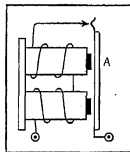

FIG. 134. Electric buzzer.
Prob. 2-7. An electric buzzer has two coils wound on soft iron cores as shown in Fig. 134. The piece of iron *A* is called the armature and is attracted by the electromagnets. Sketch some of the lines of magnetic flux due to the current in the coils.
75. Buzzers. A buzzer is constructed like any of the bells described above. (See Fig. 134.) The clapper and bell are left off and the noise is made by the vibrating armature. A master buzzer is often used to operate a set of cheap bells. These bells must be of the single-stroke type arranged in series. The buzzer merely opens and closes the circuit and causes the bells to act as vibrating-stroke bells. This is a very handy arrangement, since the contact points on the buzzer are the only ones in the circuit to get out of order, and therefore the system is more easily kept in good condition.